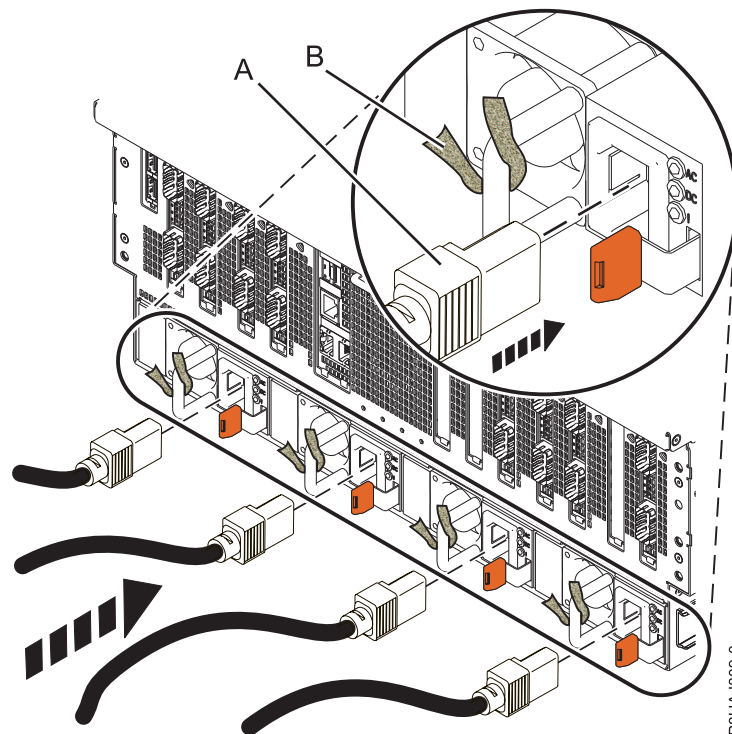

Figure 22. Plugging in the power cords and securing the cables with fasteners
- a. Plug the power cords into the power supplies (A). See Figure 22.
- c. Secure the cord and cables with cable ties or hook-and-loop fasteners (B), as shown in Figure 22.